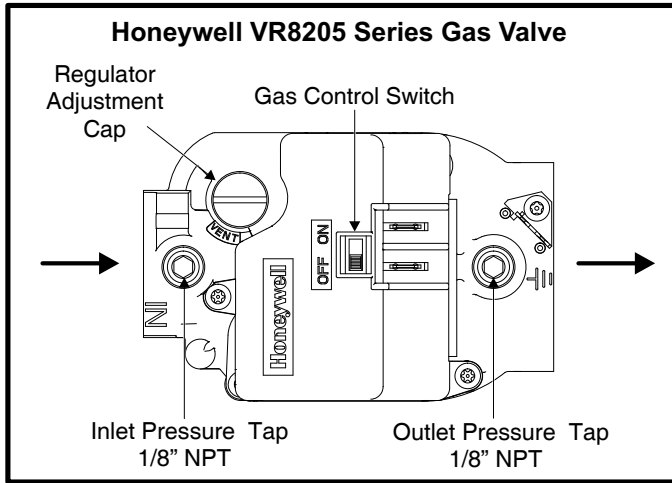

FIGURE 13
- 3 - *Honeywell VR8205 Gas Valve with ON/OFF Switch* - Set gas valve switch to **ON**. See figure 13.
After line pressure has been checked and adjusted, check manifold pressure. Refer to figure 13 for location of manifold pressure adjustment screw and pressure tap outlet.